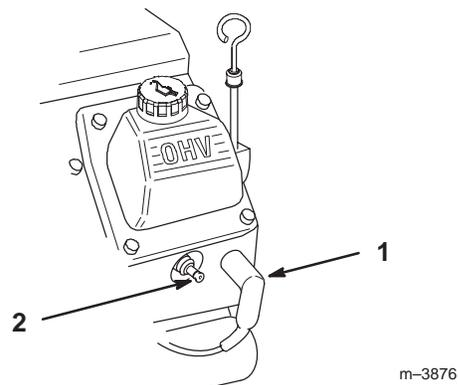

Figure 33
3. Pull the wires off of the spark plugs (Fig. 33).
3. Push the wires onto the spark plugs (Fig. 33).